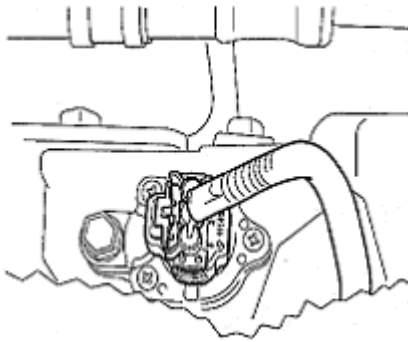

Figure 142
1. Disconnect vehicle speed sensor. See (Figure 142)
3. Install vehicle speed sensor. See (Figure 142)